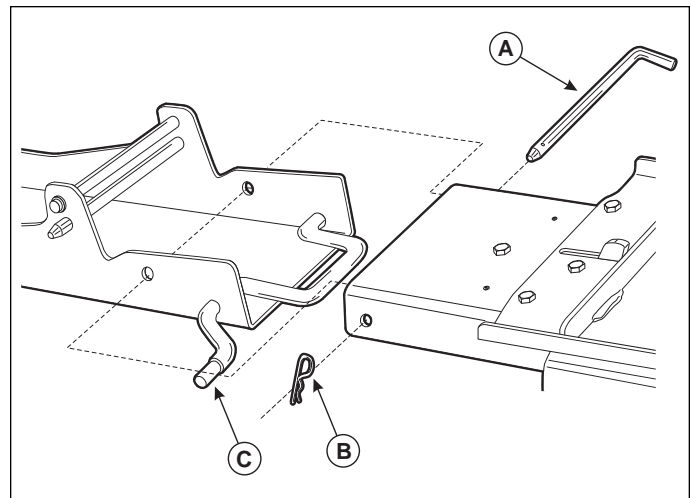

Figure 12. Attaching Snow Blade to Hitch
2. Remove the mounting pin (A, Figure 12) and quick clip (B) from the snow blade.